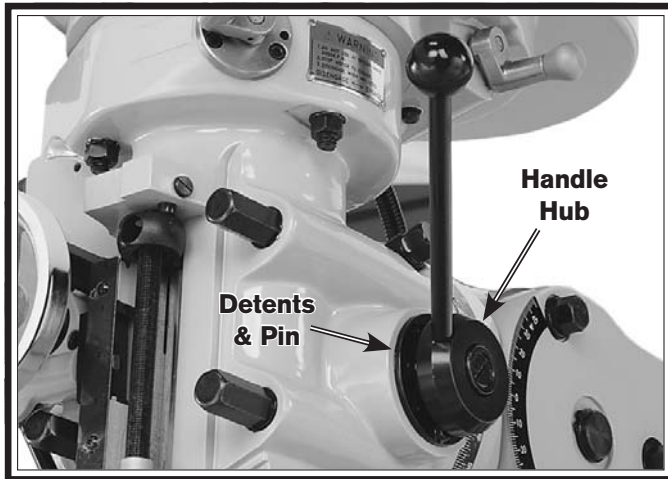

Figure 40. Coarse downfeed handle hub, detents, and pin.
4. Make sure the pin of the coarse downfeed handle hub is engaged with one of the detents on the downfeed sleeve (see **Figure 40**).